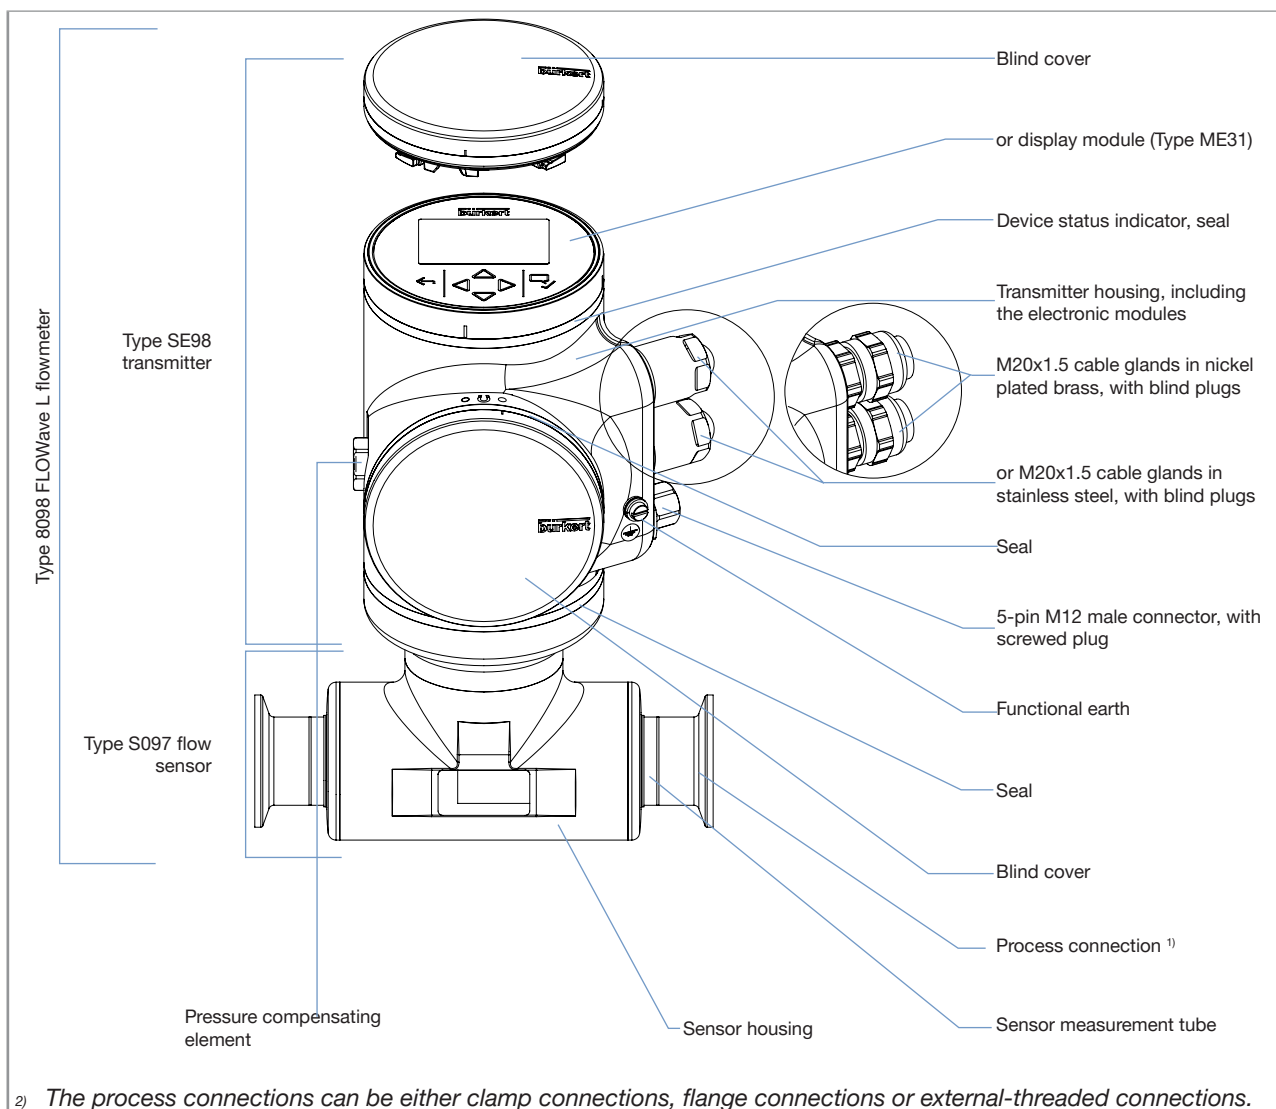

Fig. 1: Description of the device variants with two M20x1.5 cable glands and one 5-pin M12 male connector
- Fig. 1 describes a device with two M20x1.5 cable glands in stainless steel (or in nickel plated brass) and one 5-pin M12 male connector.